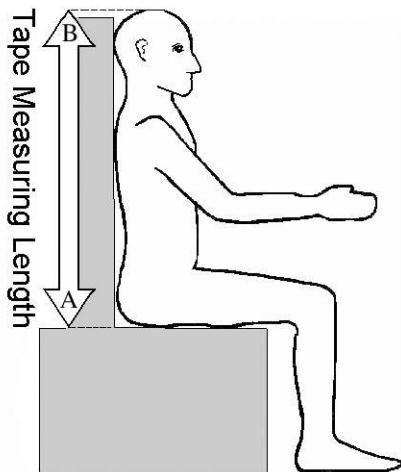

Fig. 4
- The tape can be used to make dimensional records of patient for Tailor Made sling Requirements. (See fig 4)